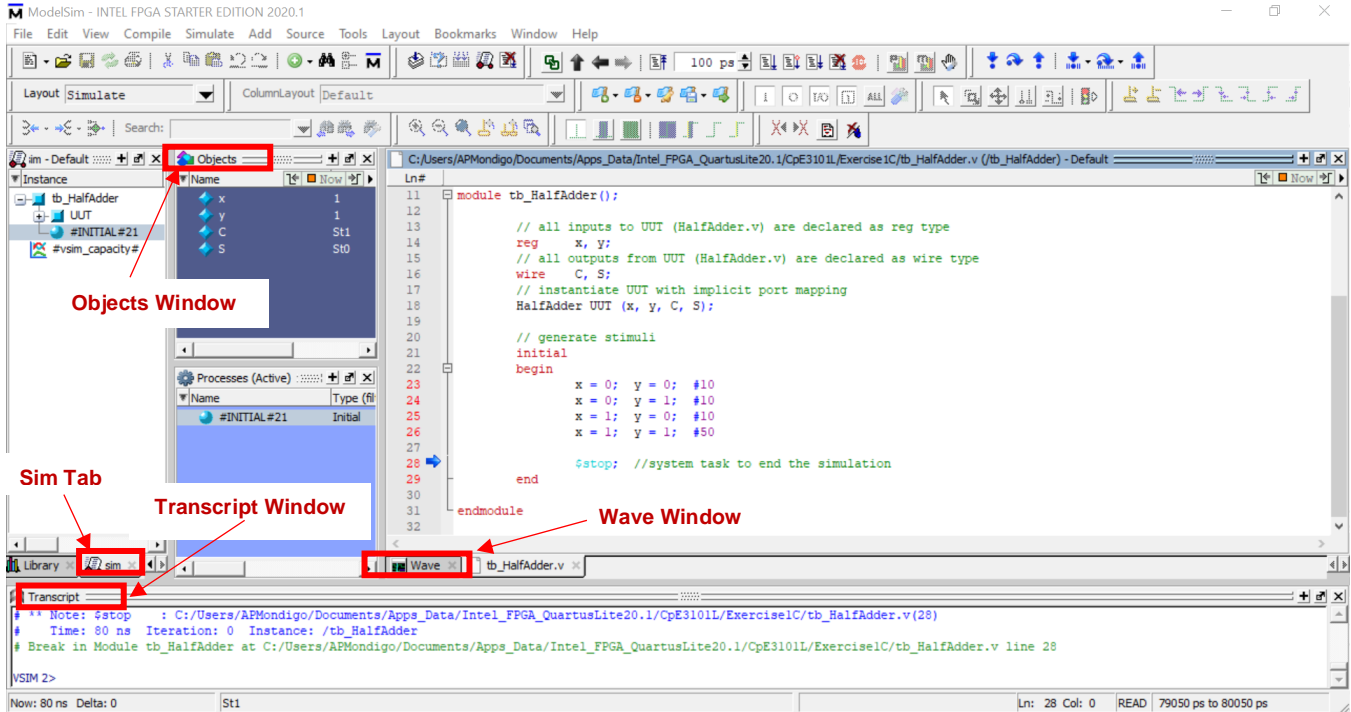

Figure 6. ModelSim - Intel FPGA Starter Edition GUI
- To generate and run the ModelSim-Intel FPGA Edition automation script from within the Intel Quartus Prime software, click **Tools > Run Simulation Tool > RTL Simulation**. This will launch the ModelSim-Intel FPGA Edition simulator, as shown in Figure 6, and will simulate the Half Adder design. The testbench file, **tb_HalfAdder.v** is displayed at the right side of the GUI.